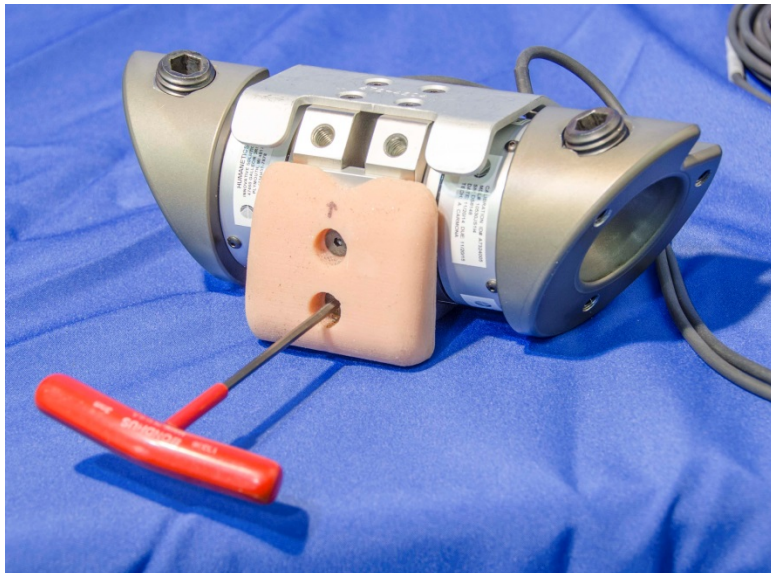

Figure 10-14. Attach the machined front pelvic casting
10.2.2.9 Attach the Machined Front Pelvic Casting (472-4370) to the Front Plate (472-4330) using two M5 x 16 FHSCS, as shown in Figure 10-14. At this stage, this assembly is referred to as the pelvic box assembly.